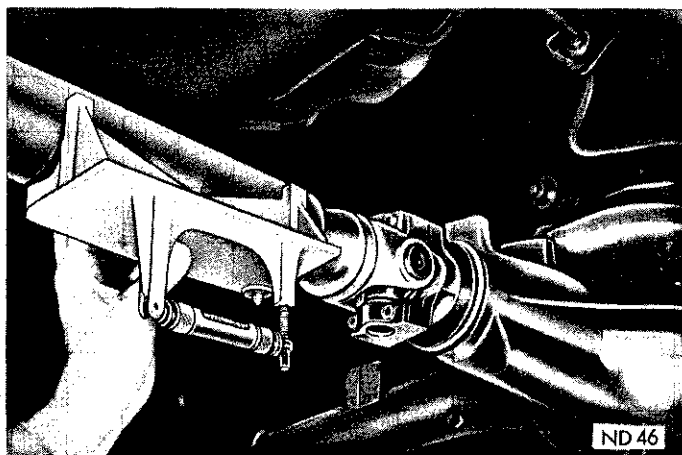

Fig. 10—Measuring Rear Universal Joint Angle
(3) Remove gauge SP-5060 from differential and carrier assembly and position it squarely and firmly along underside of propeller shaft (Fig. 10). Make sure Veeway is in alignment and that both adapter pins are contacting shaft. Be sure arrow on gauge is pointing toward the front of car.